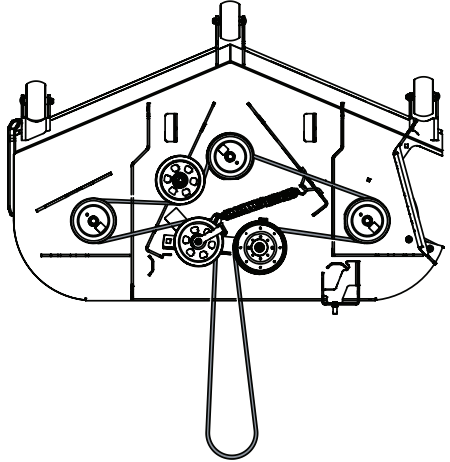

Figure 57
- Route the belt (Figure 57). Tighten and secure the idler arm hardware.